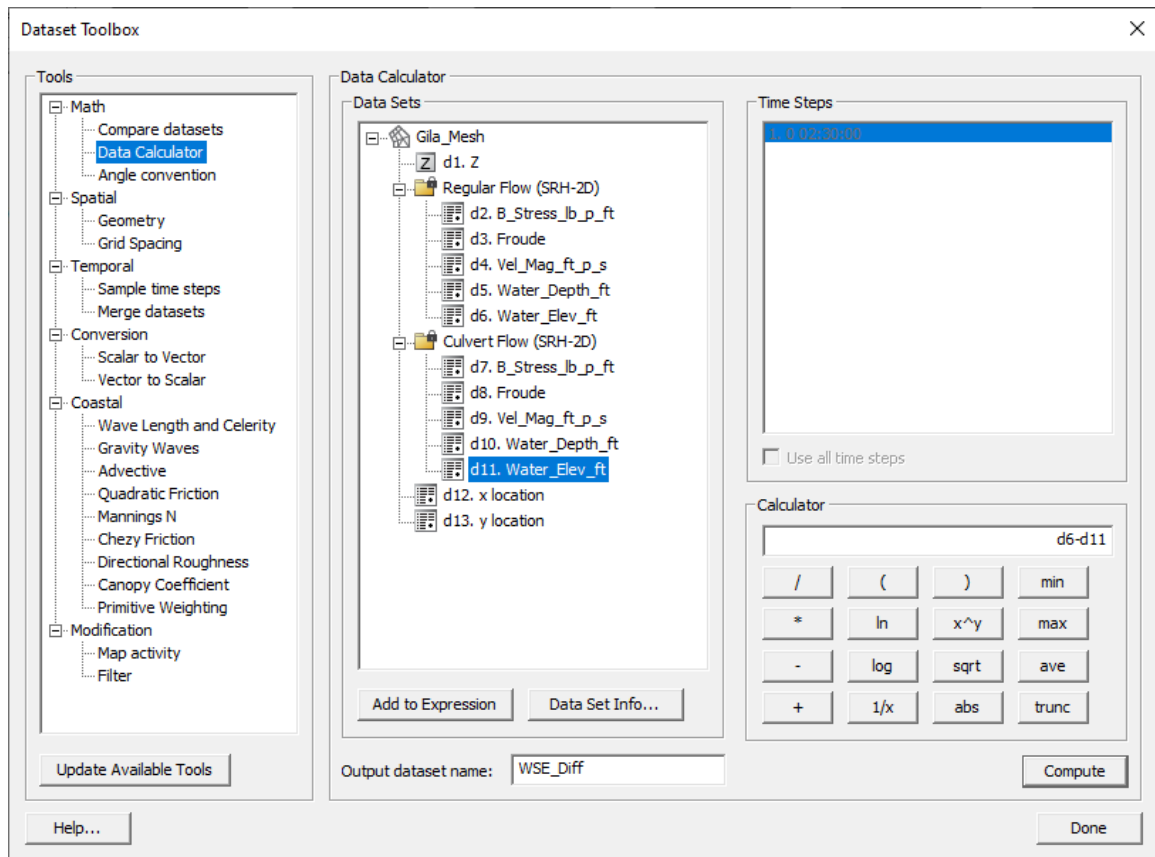

Figure 6 Data Calculator Expression
8. In the *Output dataset name* box, specify the name of the dataset as “WSE_Diff”. The window should look like Figure 6.